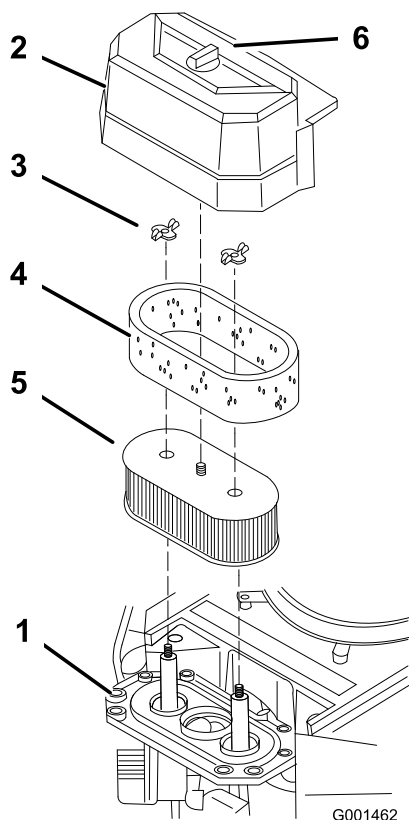

Figure 38
3. Clean around the air cleaner to prevent dirt from getting into the engine and causing damage (Figure 38).
4. Unscrew the cover knob and remove the air cleaner cover (Figure 38).
5. Remove the wing nuts and remove the air cleaner assembly (Figure 38).
6. Carefully pull the foam element off the paper element (Figure 38).
1. Do not clean the paper filter, replace it (Figure 38).
1. Carefully slide the foam element onto the paper air cleaner element (Figure 38).
2. Place the air cleaner assembly onto the air cleaner base and secure it with the 2 wing nuts (Figure 38).
3. Place the air cleaner cover into position and tighten the cover knob (Figure 38).